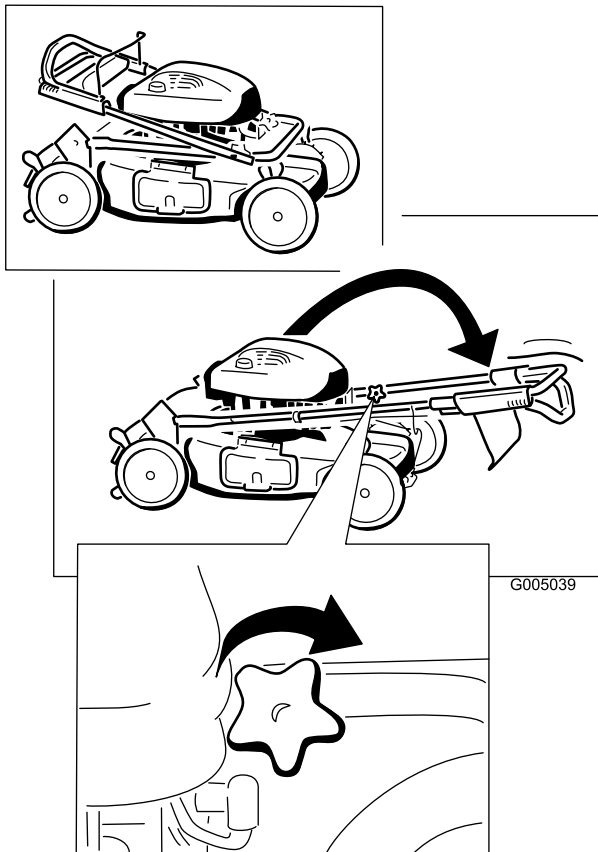

Figure 3
1. Carefully move the upper handle forward until the handle halves are in line and nest together, and tighten the handle knobs (Figure 3).